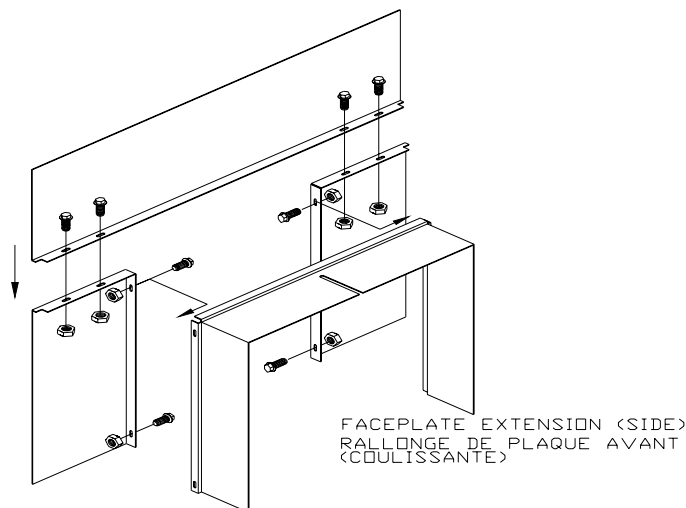

Figure 3
3. Place the faceplate face down on a flat, nonabrasive surface (see Figure 3) so that the sides are a bit towards the middle.